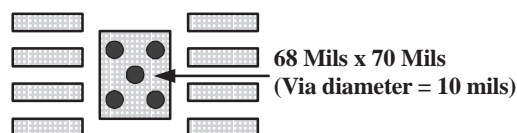

Figure 80. DGN PowerPAD PCB Etch and Via Pattern
1. Prepare the PCB with a top side etch pattern as shown in Figure 80. There should be etch for the leads as well as etch for the thermal pad.